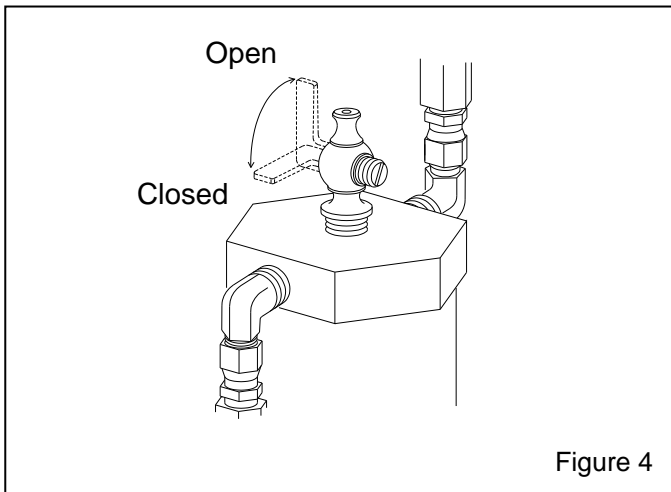

Figure 4
**3.1.3** Make sure that the safety petcock located on the inlet valve is open. The petcock is open when the petcock lever is in-line with the petcock, as shown in Figure 4.